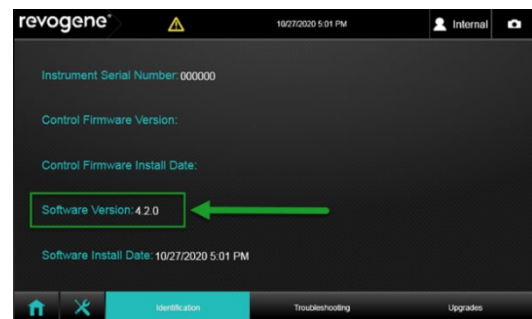

Figure 7: Version Confirmation
13. Verify that the software version has been updated to version 4.2.0. (Figure 7)